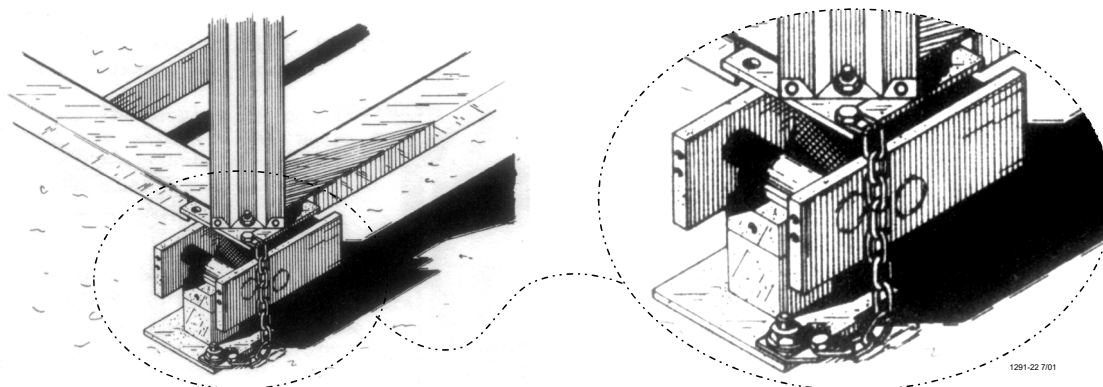

Figure 17. Securing the Weigh Bin to the Main Stand
2. Raise the bin onto the Main Stands of the Scale. Use the Leg Anchor Plates provided with the bin plus a 5/8" [15.9 mm] heavy washer at each leg to secure the bin to the Main Stands. Attach the Safety Chain to the Upper Main Stand at each leg. See **Figure 17**.